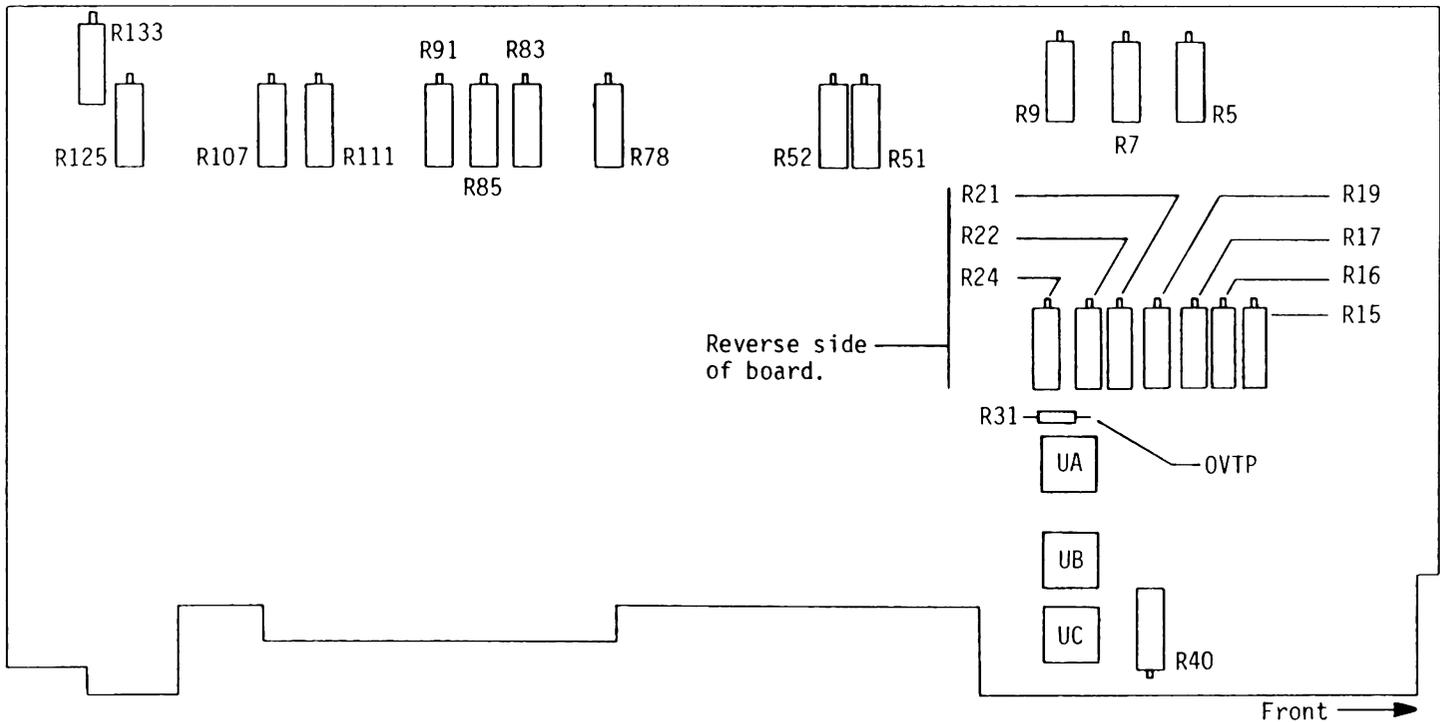

Figure 5
2. Slowly adjust trimpot R133 (Figure 5) until a separation appears on the waveform.
2. Slowly adjust trimpot R125 (Figure 5) until a separation appears on the waveform.
8. Connect multimeter to OVTP. (See Figure 5)
- b. Adjust trimpot R21 (Figure 5) until the trace is aligned with the horizontal marker line.
- b. Adjust trimpot R40 (Figure 5) until the trace is aligned with the horizontal marker line.
11. Adjust trimpot R24 (Figure 5) for the best straight line.